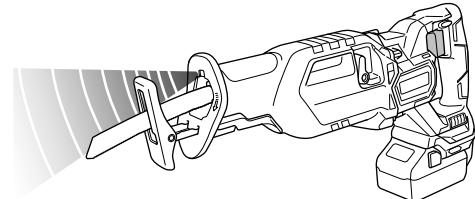

Fig. 34
10. LED light warning signals (Fig. 34)